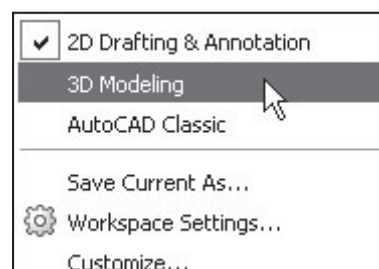

Fig. 3-2
5. On the status bar, pick the **Workspace Switching** button and select the **3D Modeling** workspace, as shown in Fig. 3-2.